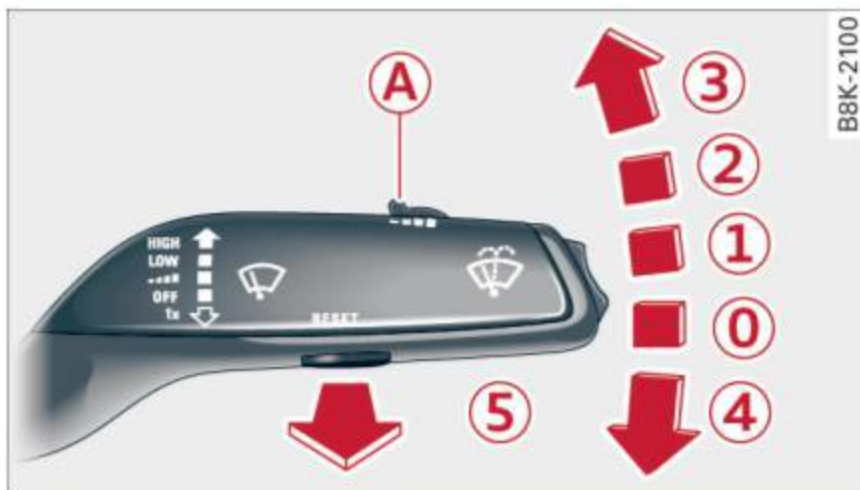

Fig. 47 Windshield wiper lever
- ▶ Switch the ignition off and move the windshield wiper lever to position ④ ⇒ page 48, fig. 47. The windshield wipers move into the service position.
- ▶ Switch the windshield wipers off (position ① ⇒ page 48, fig. 47).